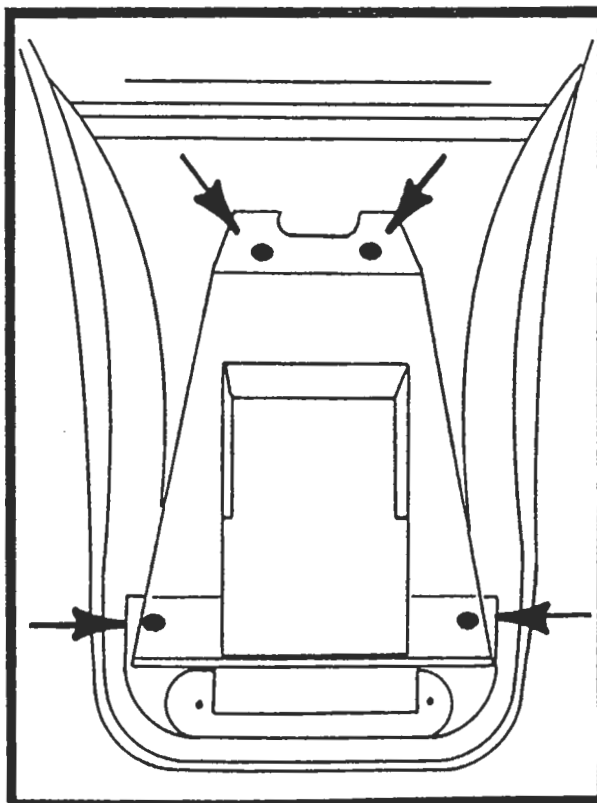

FIGURE 9
B. Install Escort Passport 4600 radar detector housing (item 7 pg 2) and secure using (4) four # 6 x 1/2" screws (item 1 pg 2). See figure 9.